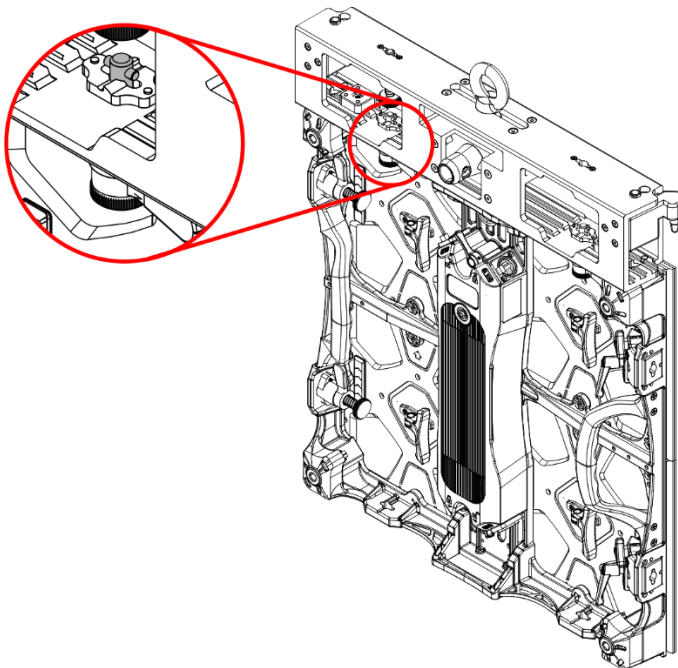

Fig. 22
- 04) Make sure that the **pins (C)** of the left **locking mechanism (06)** are firmly locked in the fast-lock opening on the bottom of the rigging bar, as shown in Fig. 22.